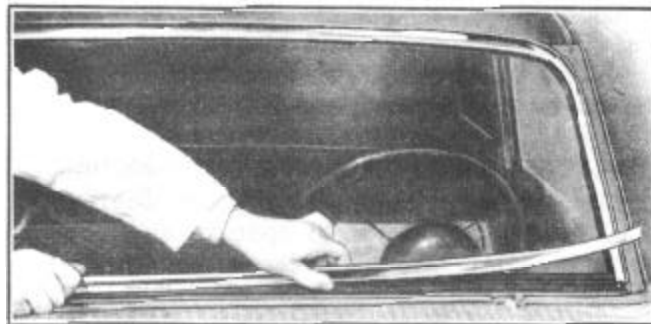

FIGURE 46
2. Remove lower reveal moulding by pushing upward at either corner to release moulding lip from groove in weatherstrip, as shown in Figure 46.